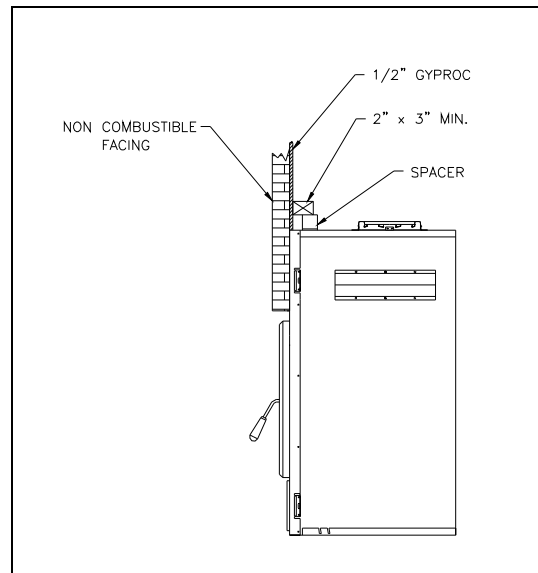

Figure 14
3. Non-combustible materials such as brick, stone or ceramic tile may project in front of and onto the fireplace facing (figure 14).